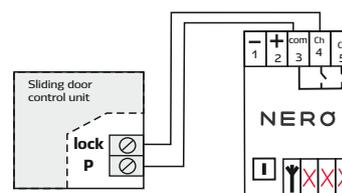

Figure 4 – Continuous command mode
**Continuous command mode (command duration is infinite).** It is used to control automation objects in which a continuous command is required, for example, a command to block the doors or gates automation. However, it should be taken into account that the radio card has one common input (3 "com" terminal), and it is not possible to connect it to different potentials at the same time (see Figure 4).